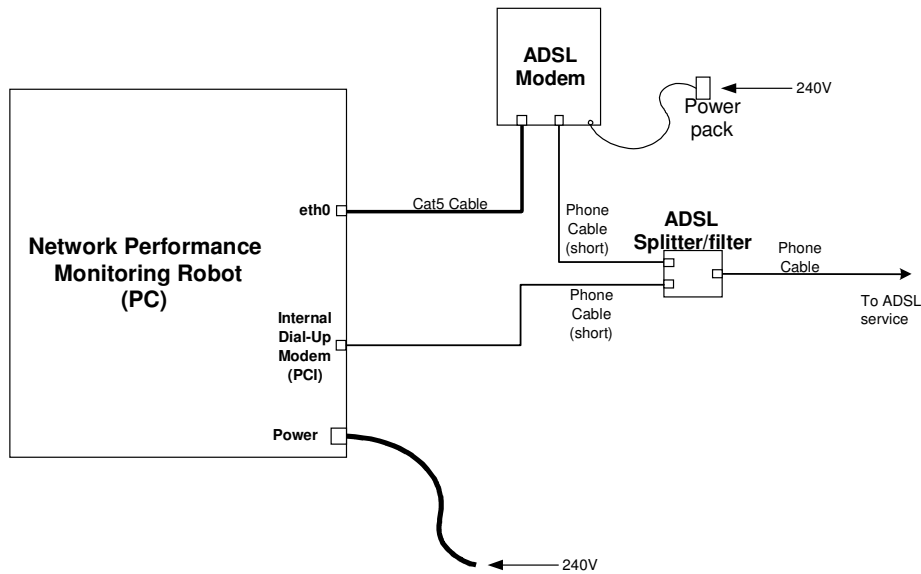

Figure 14 – Shark Robot Network Performance Monitoring Layout
- See Figure 14 below for the installation layout.
- Confirm set-up aligns with the Installation Cabling diagram below (see Figure 14).
- Please now contact the responsible Telstra Shark Operational Staff - **Steve Hewett** on (03) 8549 1613 or alternatively **Julian Howden** on (03) 8549 1612 to register Shark Robot PC has been installed (escalation to John Livsey on (03) 8549 1845).